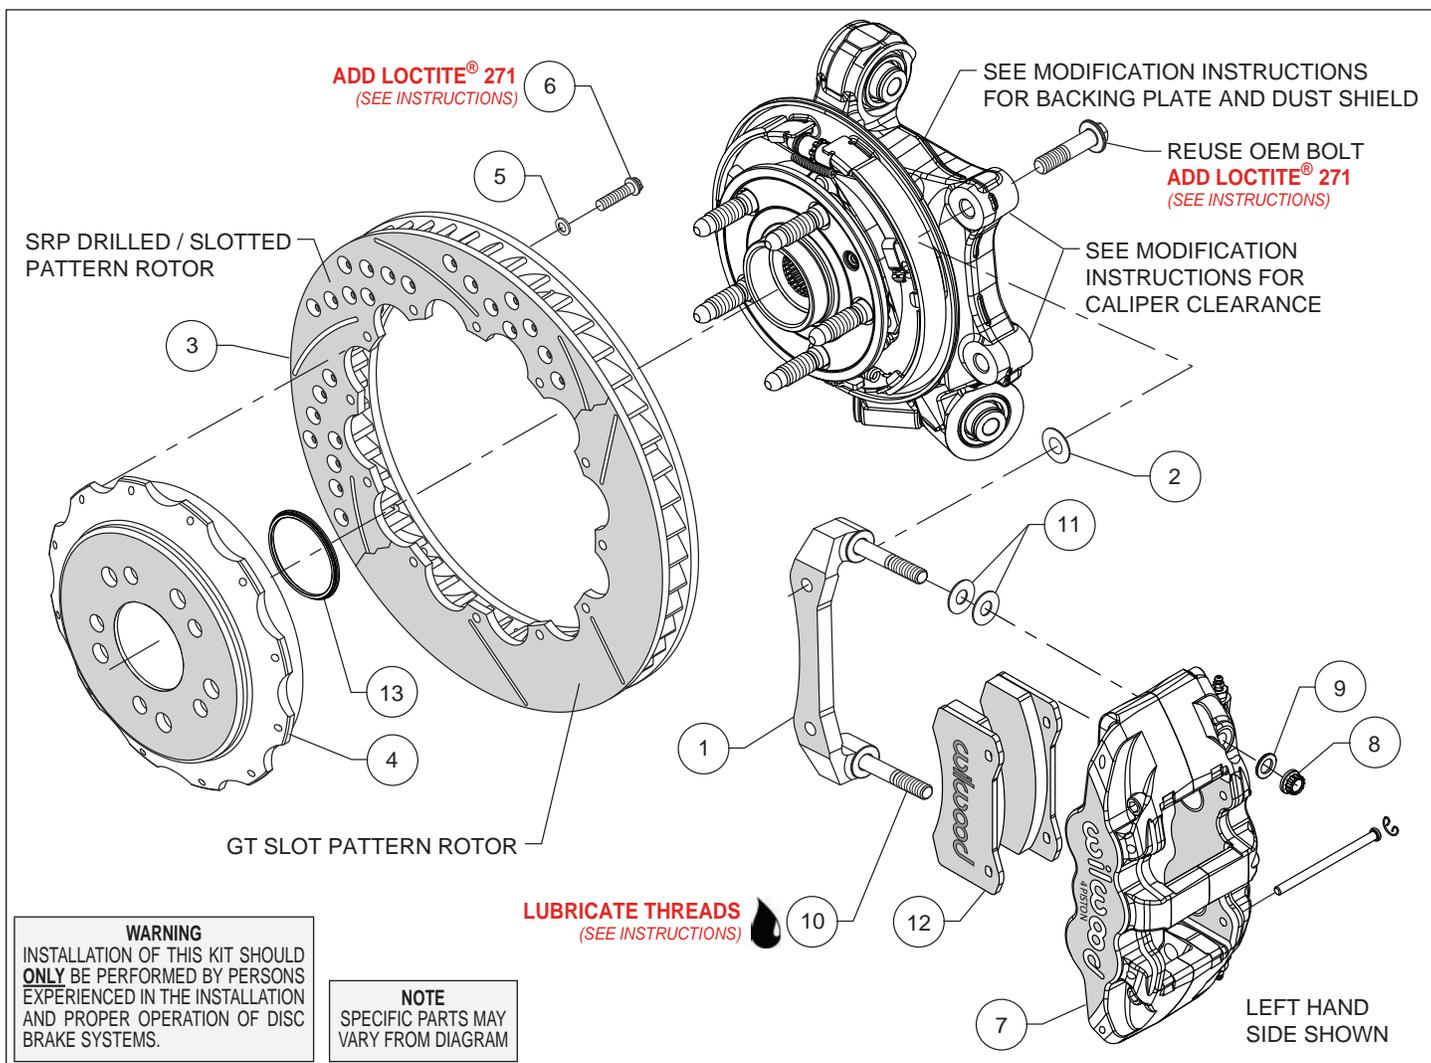
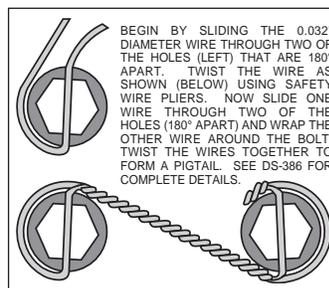

Figure 1. Typical Installation Configuration
Figure 4. Safety Wire Diagram
Assembly Instructions (numbers in parenthesis refer to the parts list and Figure 1 on the preceding pages):
- The caliper mount bracket (1) should initially be installed with clean, dry threads on the mounting bolts. Orient the bracket as shown in Figure 1 and install using the saved OEM caliper mount bolts. Initially place one .033" thick shim (2), on each bolt between the bracket and upright, Figure 1 and Photo 1. Temporarily tighten the mounting bolts. **NOTE:** The bracket must fit squarely against the mount bosses on the upright. Inspect for interference from casting irregularities, machining ridges, burrs, etc. Later, after the caliper alignment has been checked, the mount bolts will be secured using red *Loctite*® 271.
- Orient the rotor (3) and the hat (4) as shown in Figure 1 and Photo 2. Attach rotor to hat using bolts (6) and washers (5). Using an alternating sequence, apply red *Loctite*® 271 to the threads and torque bolts to 140 in-lb. For an added measure of security, the bolts may be safety wired using standard 0.032 inch diameter stainless steel safety wire as shown in Figure 4. Please refer to Wilwood's data sheet DS-386 (available at www.wilwood.com/Pdf/DataSheets/ds386.pdf) for complete safety wire installation instructions.
- Slide the rotor registration adapter (13) onto the axle register on the axle hub with the smaller O.D. facing outward, Photo 3. Align the correct hole pattern in the hat with the stud pattern on the axle hub and slide into place, Figure 1. **NOTE:** The hat must fit flush against the axle hub flange or excessive rotor run out may result. Install three lug nuts (finger tight) to keep the hat/rotor assembly in place while continuing with the installation. **CAUTION:** Some vehicles have long OEM caliper mount bolts that may interfere with the heads of the new rotor mount bolts. Check for interference, and if necessary, shorten the ends of the OEM caliper mount bolts to allow a minimum of .06" clearance.
- Lubricate the caliper mounting studs (10) with lightweight oil. Initially place two .030" thick shims (11) on each stud between the caliper and the bracket, as shown in Figure 1 and Photo 4. Mount the caliper (7) onto the bracket (1) using lock nuts (8) and washers (9), Figure 1. Temporarily tighten the lock nuts and view the rotor through the top opening of the caliper. The rotor should be centered in the caliper, Photo 5. If not, adjust by adding or subtracting shims (2) between the bracket and the upright. Always use the same amount of shims on each of the two mounting bolts. Once the caliper alignment is correct, remove the bracket mounting bolts one at a time, apply red *Loctite*® 271 to the threads, and torque to 65 ft-lb.
- Remove the two pad retaining pins from the caliper (7) by carefully popping out the pin retaining clips and sliding out the pins. Insert the brake pads (12) into the caliper from the bottom, Figure 1 and Photo 6. With the friction material facing the rotor, secure the brake pads in place with the pad retaining pins and clips, Photo 7. Reinstall the caliper onto the caliper mounting bracket and temporarily tighten the lock nuts. Check that the top of the brake pad is flush with the outside diameter of the rotor, Photo 8. If not, adjust by adding or subtracting shims (11) between the caliper and the bracket. After the caliper pad height is set, torque the caliper lock nuts (8) to 47 ft-lb.